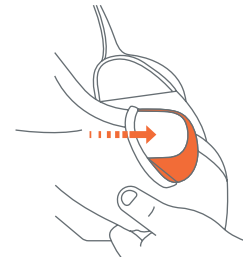

Fig. 40c
3. Slip seat fabric over cup holders (Fig. 40c).